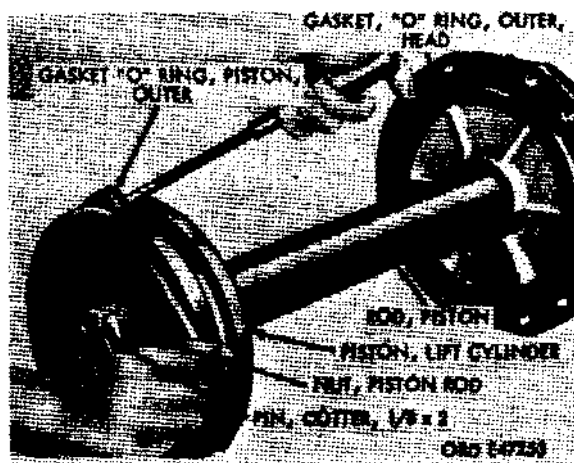

Figure 466. Removing O-ring gasket from lift cylinder piston
- (b) Insert screwdriver or similar tapered tool under piston outer O-ring gasket (L) and remove gasket from lift cylinder piston (fig. 466).
- (c) Remove cotter pin (fig. 466) and piston rod nut (M) from stub end of piston rod (V). Slide lift cylinder piston (K) from rod.
- (d) Use a small screwdriver or similar tapered tool and remove piston inner O-ring gasket (J) from the inner diameter of piston.
- (e) To remove lift cylinder piston rod bushings (A), use suitable adapter and press out both bushings.
- (2) Disassemble lift cylinder head.
- (a) Remove head outer O-ring gasket (H) from cylinder head (E).
- (b) Using a small screwdriver, remove O-ring type packing (C) from inner diameter of lift cylinder head.